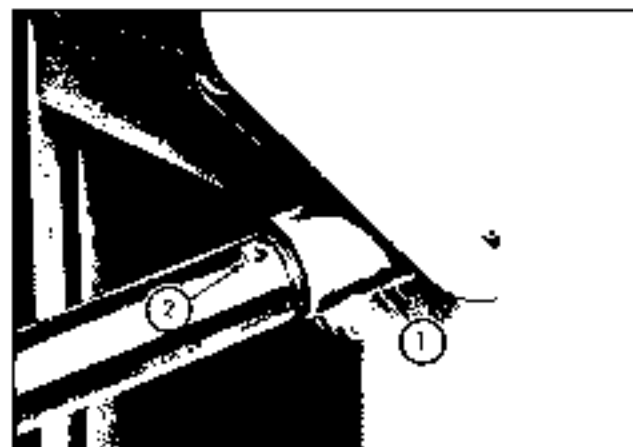

Fig. 1-36. Tilt Cylinder Adjustments
b. If a new cylinder is installed, retract the tilt cylinders. Loosen bolt in rod end (1, figure 1-36), place a punch through the hole (2, figure 1-36) in the rod, and align the new cylinder with the other to square up the mast.